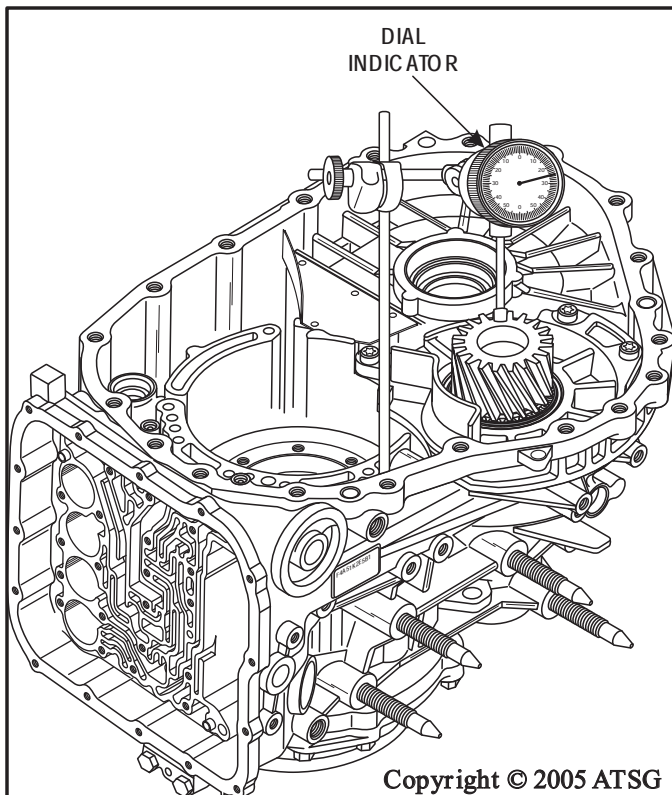

Figure 156
13. This procedure was based on you having the spacer in your unit. If the spacer is lost you must start from scratch. You will have to install the small bearing race without the spacer, and torque the nut to specification. Then measure the end play of pinion with a dial indicator, as shown in Figure 156. Then you can choose a spacer from the chart that is approximately .002" thicker than your dial indicator reading.